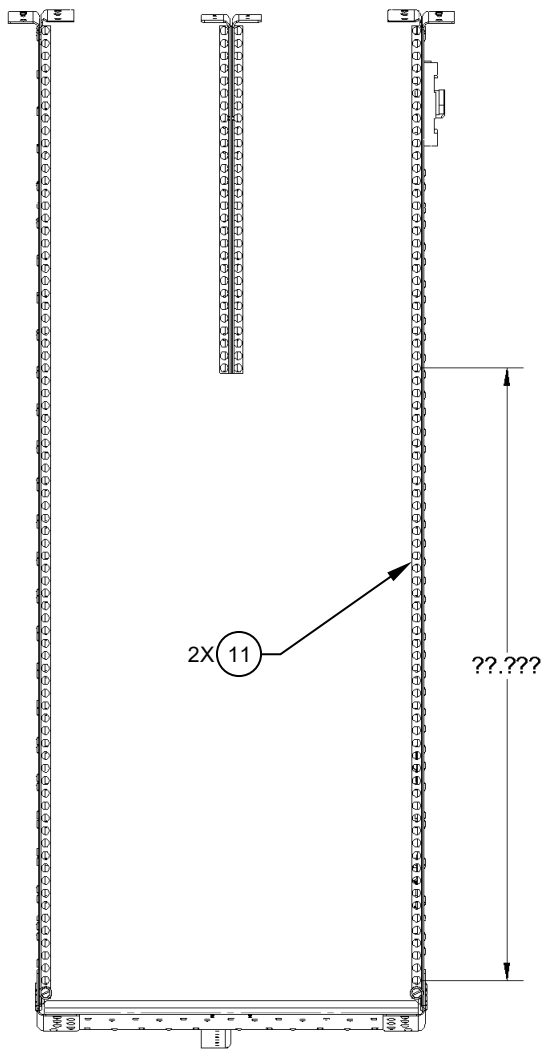

Figure 32
6.4.5. Measure the center to center distance of the desired hole pitching on the Dzus Rail, Detail, (Item 11). Transfer that distance to the Panel Mount Plate, Assy, (Item 26), on both sides and maintaining the same edge distance, and drill with a letter F drill, countersink the backside $\text{Ø}.327 \times 100^\circ$. Measure $.188$ " from the center of the AFT holes to set the edge for the AFT end of the panel. See Figure 32 & 33.